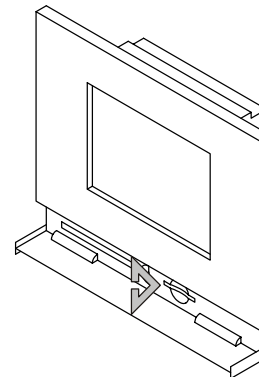

Fig. 68
2. Insert the SD card into the room/control panel and press the "Read Multimedia/SD card" button (Fig. 68).